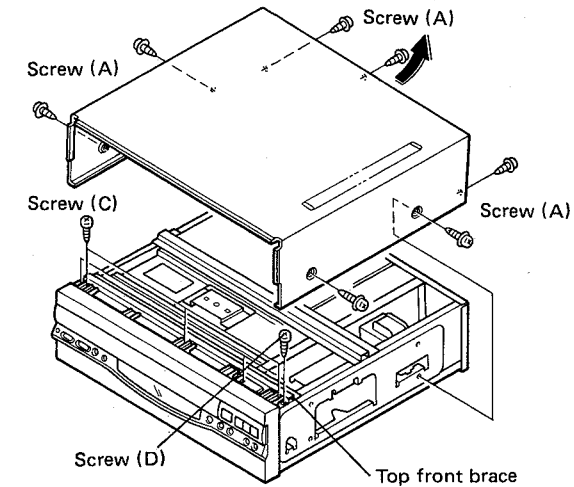

Fig. 1
5. Remove the front panel by removing screws (C), and place the front panel, with the control keys facing upward, on a position so that it is not hit when the disc tray is opened. (Figs. 1 and 4)
6. Remove the top front brace by removing screws (D). (Fig. 1)
1. Remove the top cover. (Fig. 1)